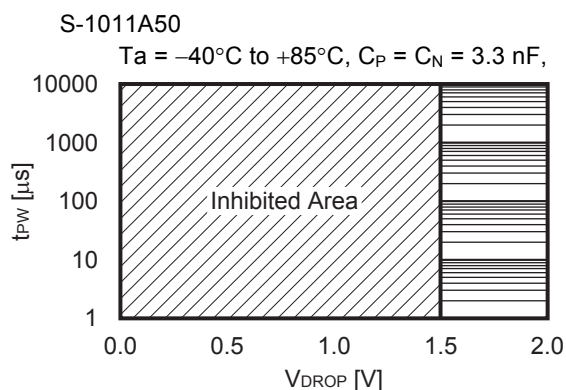
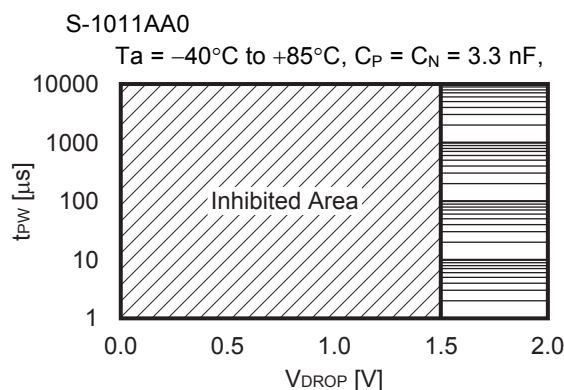

Figure 40
Figure 41
Figure 40 and **Figure 41** show the relation between pulse width (t_{PW}) and V_{DD} lower limit (V_{DROP}) where a release signal can be output after the normal release delay time has elapsed when the V_{DD} pin (V_{DD} detection product) instantaneously drops to the detection voltage ($-V_{DET}$) or lower and then increases to the release voltage ($+V_{DET}$) or higher during release delay time.
1. **Figure 40** and **Figure 41** show the input voltage conditions when a release signal is output after the normal release delay time has elapsed. When this is within the inhibited area, release may erroneously be executed before the delay time completes.
2. When the V_{DD} pin voltage is within the inhibited areas shown in **Figure 40** and **Figure 41** during release delay time, input 0 V to the V_{DD} pin then restart the S-1011 Series.